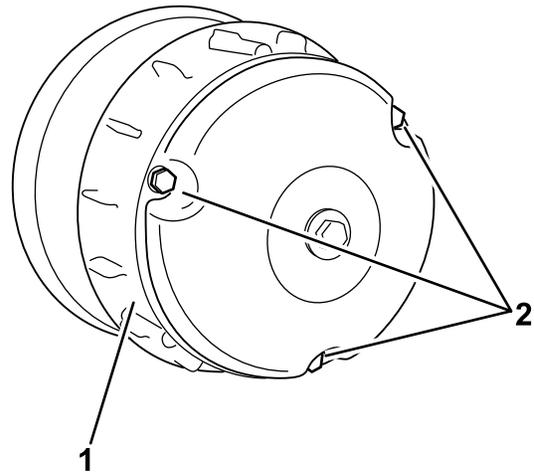

Figure 61
2. Remove the 3 bolts securing the cover to the clutch, and remove the cover (Figure 61).
4. Install the clutch cover and secure it with the 3 bolts (Figure 61) that you removed in 2.